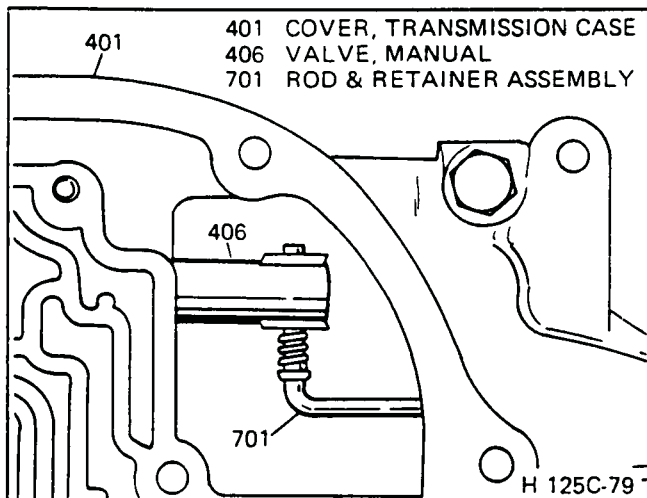

Figure 85 Manual Valve
- Retainer (701) to manual valve (406) (Figure 85)